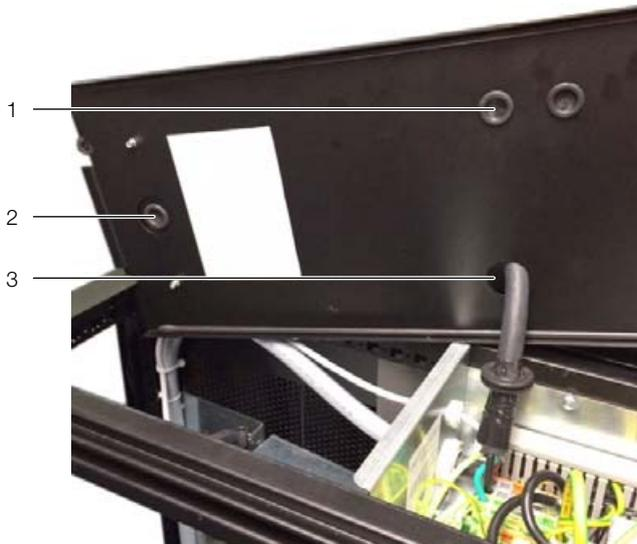

Fig. 26: Roof plate
Power is supplied to the LCP DX via a 4-wire connection cable (208 V, 1~, N, PE). The cable has to be inserted into the device from above via a cable gland (fig. 26).
Inside the device, the cable is routed into the electronics box via the large cable gland in the centre (fig. 26, item 1). It is connected to the appropriately labelled terminals (PE, L1, L2, N) in the electronics box (see section 14.4 "Circuit diagram").
- Trim the neutral conductor (N) and the single phase conductors (L1 and L2) to a length of approximately 35 mm (1.38"). Leave the length of the PE conductor at approximately 45 mm (1.77").